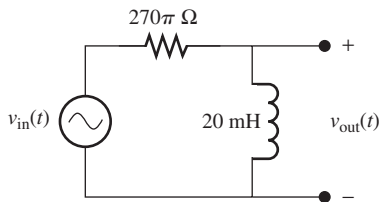

FIGURE P7.23 Filter for Problem 7.23.
7.23 (B) Find the break frequency and transfer function for the filter of Figure P7.23.